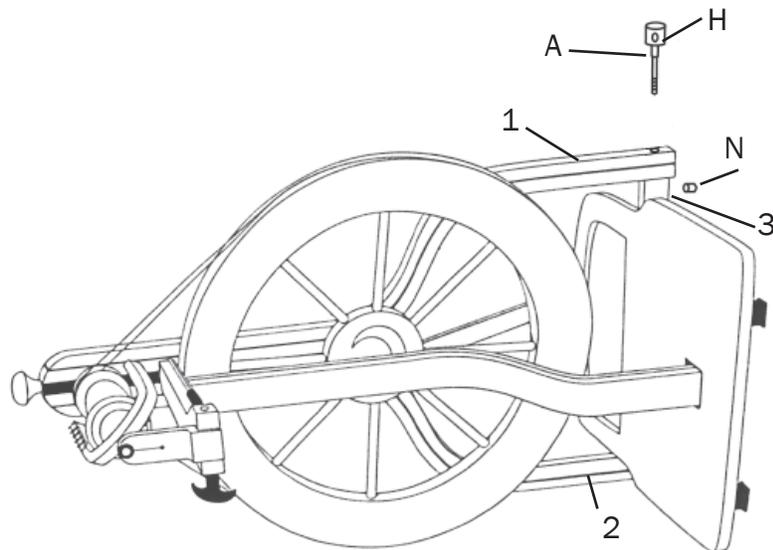

Figure 1
1. Place the spinning wheel on its left side (Figure 1).
2. Remove the bronze bolt from the bottom of the right leg (1). Use the enclosed hex wrench.
3. Slip the axle bolt (A) through the hole in the leg and screw it into the barrel nut (N) in the rear leg brace (3).
4. Take the blunted nail and slip it through the cross hole (H) in the axle and use it to tighten up the axle. Remove the nail.
5. Turn the spinning wheel over on its right side and remove the bronze bolt on the bottom of the left leg (2).